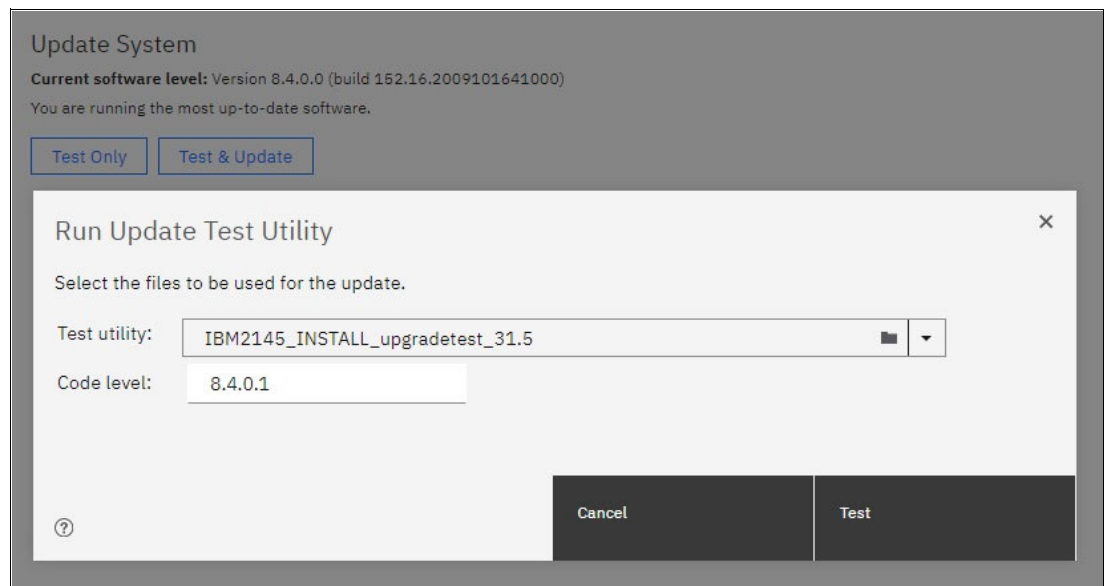

Figure 10-4 IBM SAN Volume Controller Upgrade Test Utility using the GUI
4. Upload the Test utility file and enter the code level to which you are planning to update. Figure 10-4 shows the IBM SAN Volume Controller management GUI window that is used to install and run the Upgrade Test Utility.